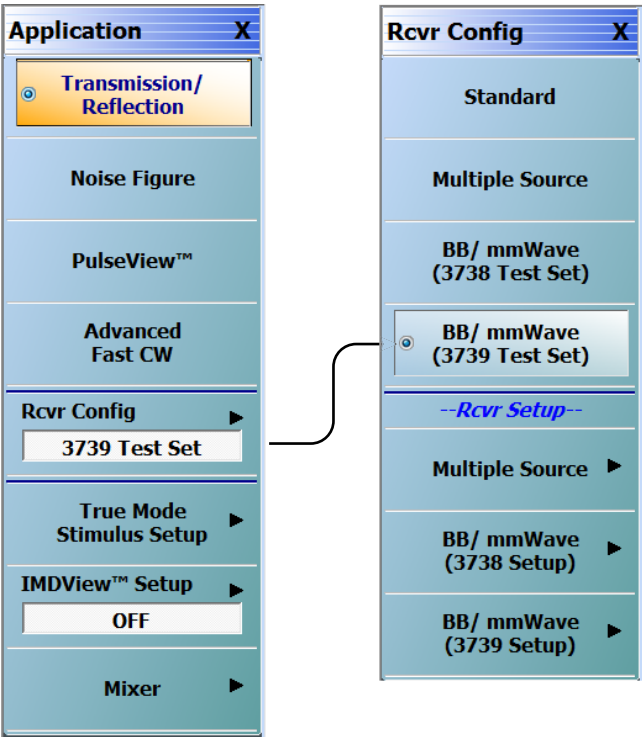

Figure 3-9. Broadband Configuration Selection
- 3. At the MAIN menu, select Application. The APPLICATION menu appears as shown in Figure 3-9.